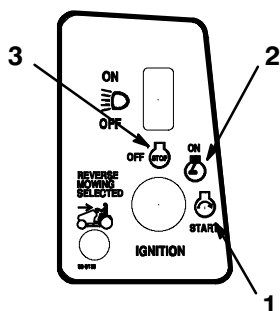

Figure 8
5. Turn the ignition key clockwise and hold it in the “START” position (Fig. 8). When the engine starts, release the key.
2. Turn the ignition key to “OFF” and remove the key (Fig. 8).